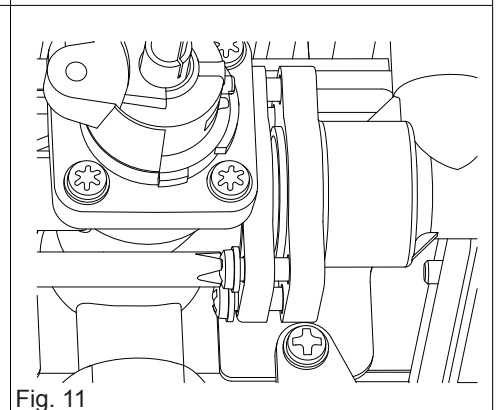

Fig. 11
- Remove the 4 screws (B) of the gas valve (fig. 11)